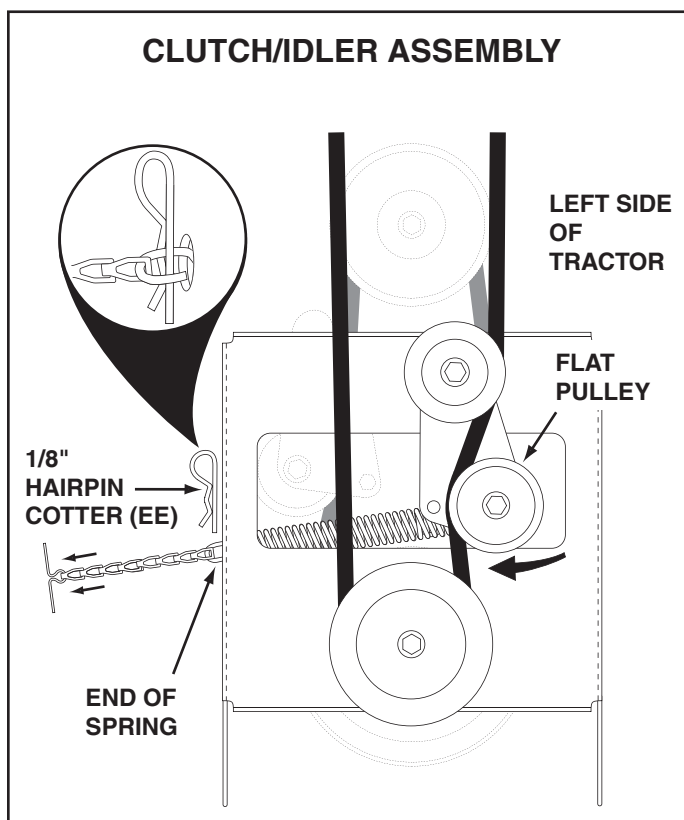

FIGURE 57
STEP 59: (SEE FIGURE 57)
- Pull the tensioning chain until the end of the spring is pulled through the hole in the side of the Clutch/Idler assembly. Install the 1/8" hairpin cotter (EE) through the end of the spring, securing it on the outside of the Clutch/Idler assembly.